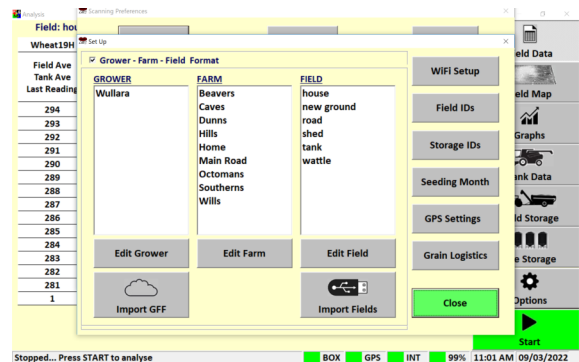

Figure 3.6. Setup - Field IDs in Client-Farm-Field format.
- To sync SetUp Data—Grower Farm Field names press the **(Cloud Icon) Import GFF** button as shown in figure 3.6.
- Press the Client Farm Field tick box as shown in figure 3.6 to activate Client Farm Field format.